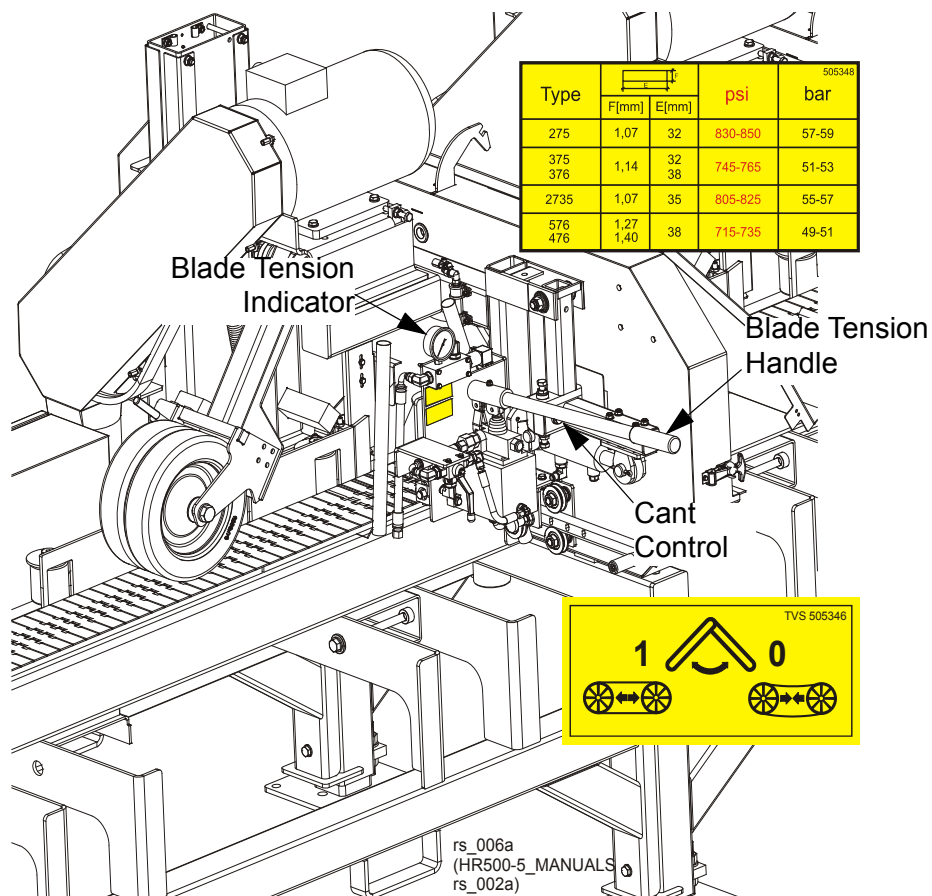

FIG. 2-13
See Figure 2-13. Place the provided handle in the blade tensioner socket and secure with a screw. Set the tensioner valve to the "1" position. Move the tensioner handle up and down to tension the blade. Depending on the installed blade type, tension the blade to the value shown on the decal located below the blade tension valve. The values "F" and "E" are: blade thickness and blade width. Check the blade tension occasionally when adjusting the cant control or while cutting and adjust if necessary. As the blade and belts heat up and stretch, the blade tension will change. Also, ambient temperature changes can cause tension to change. To release the blade tension, set the tensioner valve to the "0" position.
5. Use the cant adjustment bolt, shown in **Figure 2-13**, to adjust where the blade travels on the blade wheels.